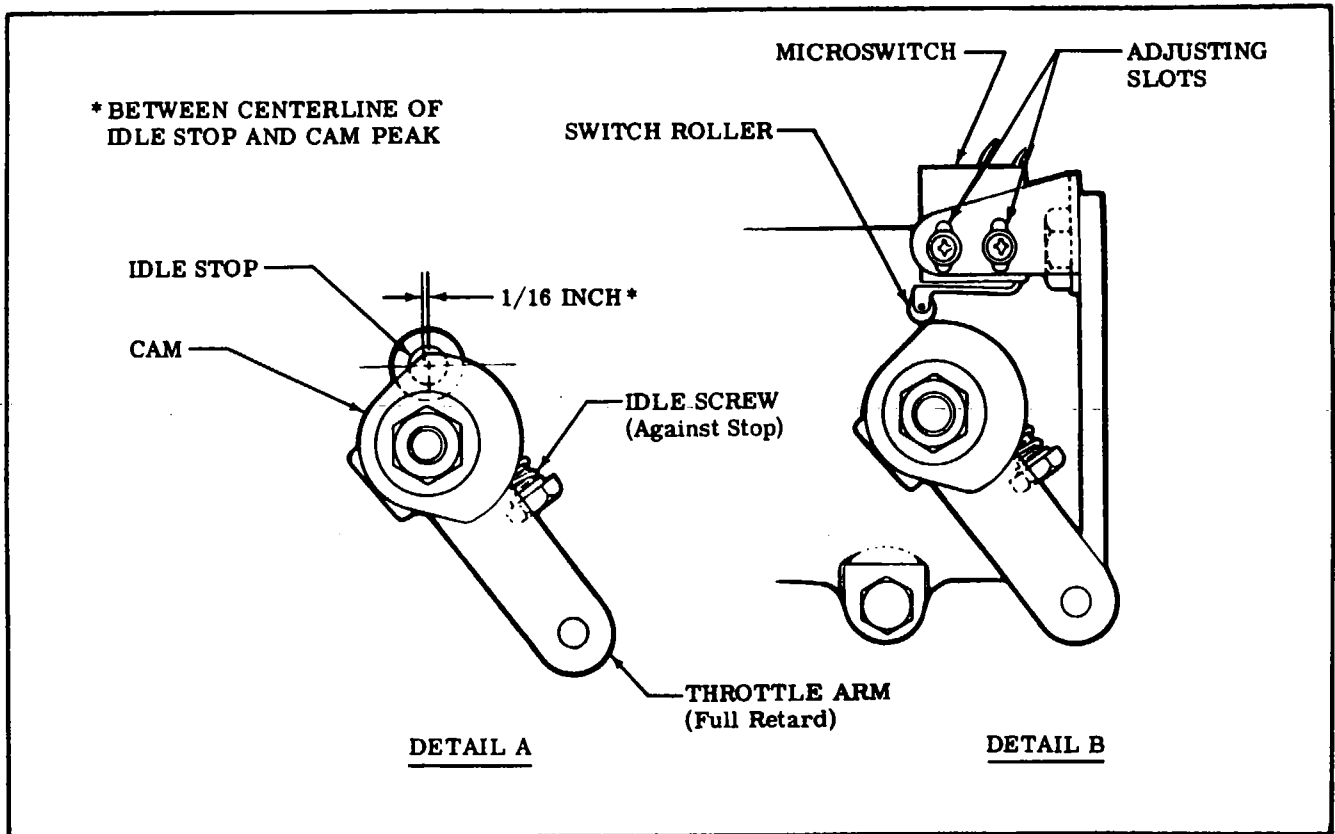

Figure 12-6A. Rigging Throttle Operated Microswitch
**12-25A. REMOVAL AND INSTALLATION. (BEGINNING WITH SERIAL FR17200531) (Refer to Figure 12-6A.)**